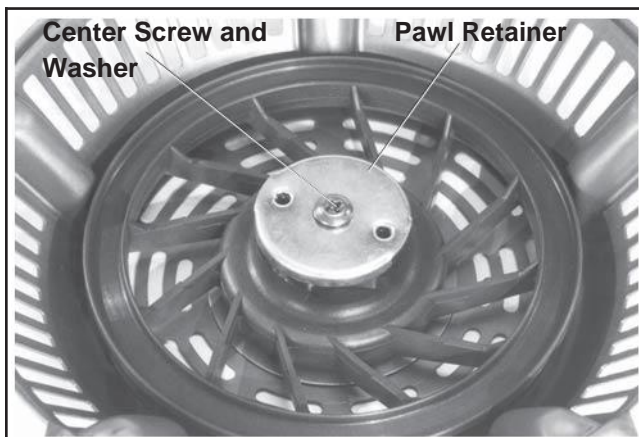

Figure 7-5. Center Screw, Washer and Pawl Retainer.
2. Remove the center screw, washer, and pawl retainer. See Figure 7-5.